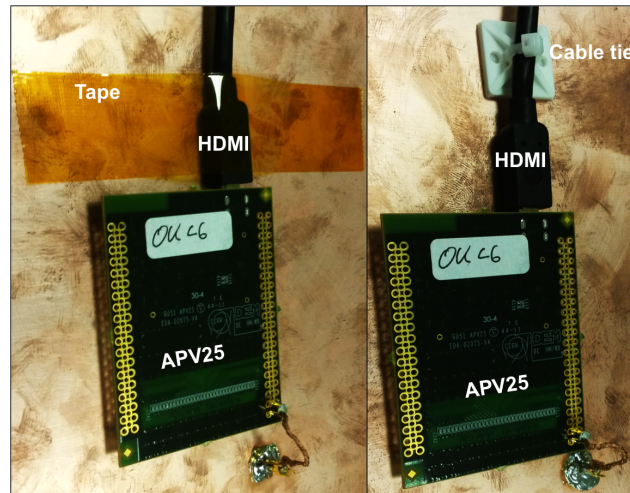

Figure 5.18: QC5 picture of the HDMI cable connected to its APV25 hybrid.
3. Secure the HDMI connection by putting kapton tape or a cable tie near the APV connector, as shown on Fig. 5.18. Make sure you are not applying too much stress on the cable itself, under the penalty of breaking the HDMI connector on the hybrid.